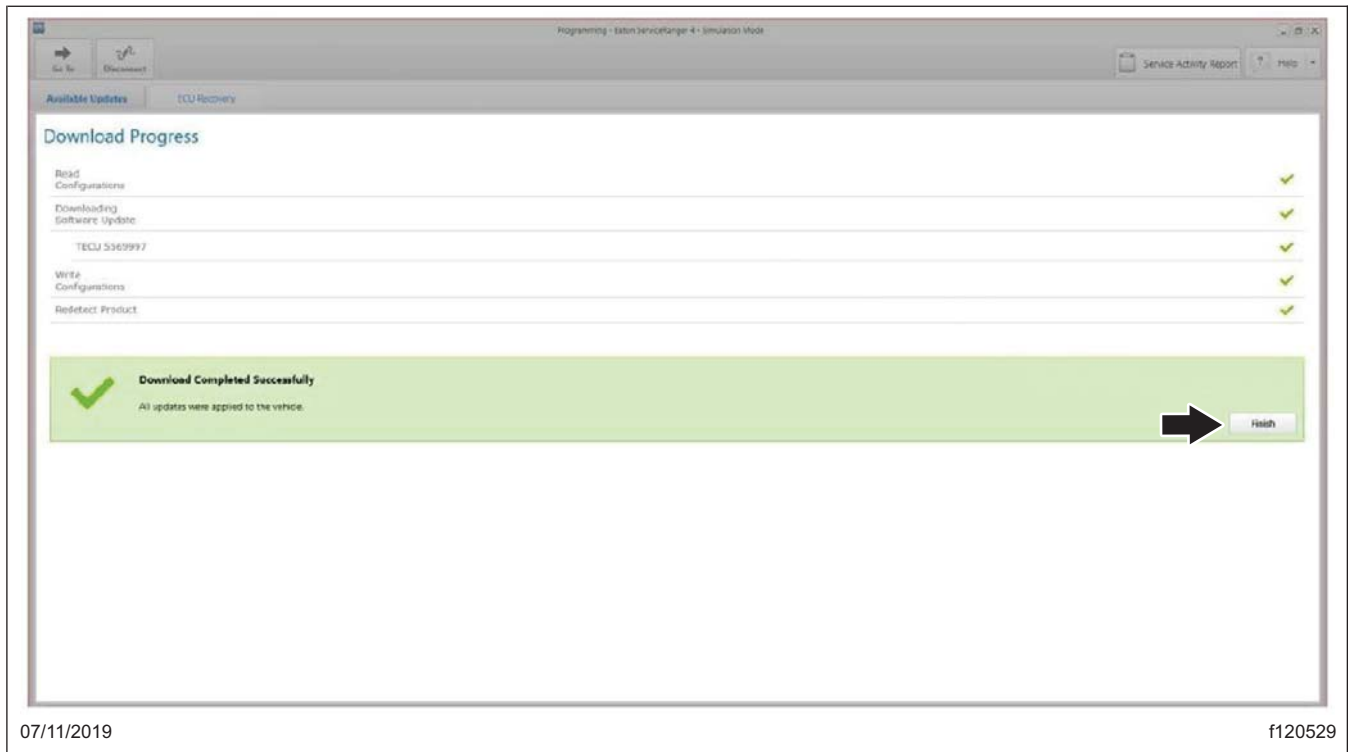

Fig. 11, Selecting Finish when Prompted
- 4.12 Select "Finish" when prompted. See Fig. 11.